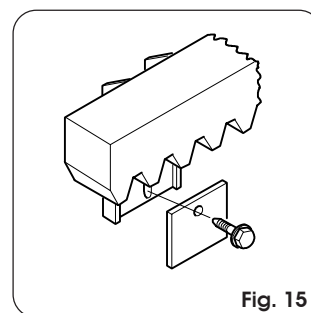

Fig. 15
4.8.3. Nylon rack to be screwed (Fig. 15)